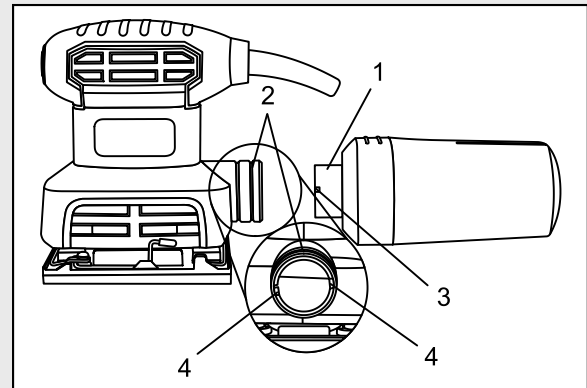

Fig. 1
1. Insert the dust box assembly sleeve (1) into the dust chute (2) (Fig. 1).
3. Once the sanding dust is removed from the dust box assembly, reinstall the dust box assembly as noted in Fig. 1.